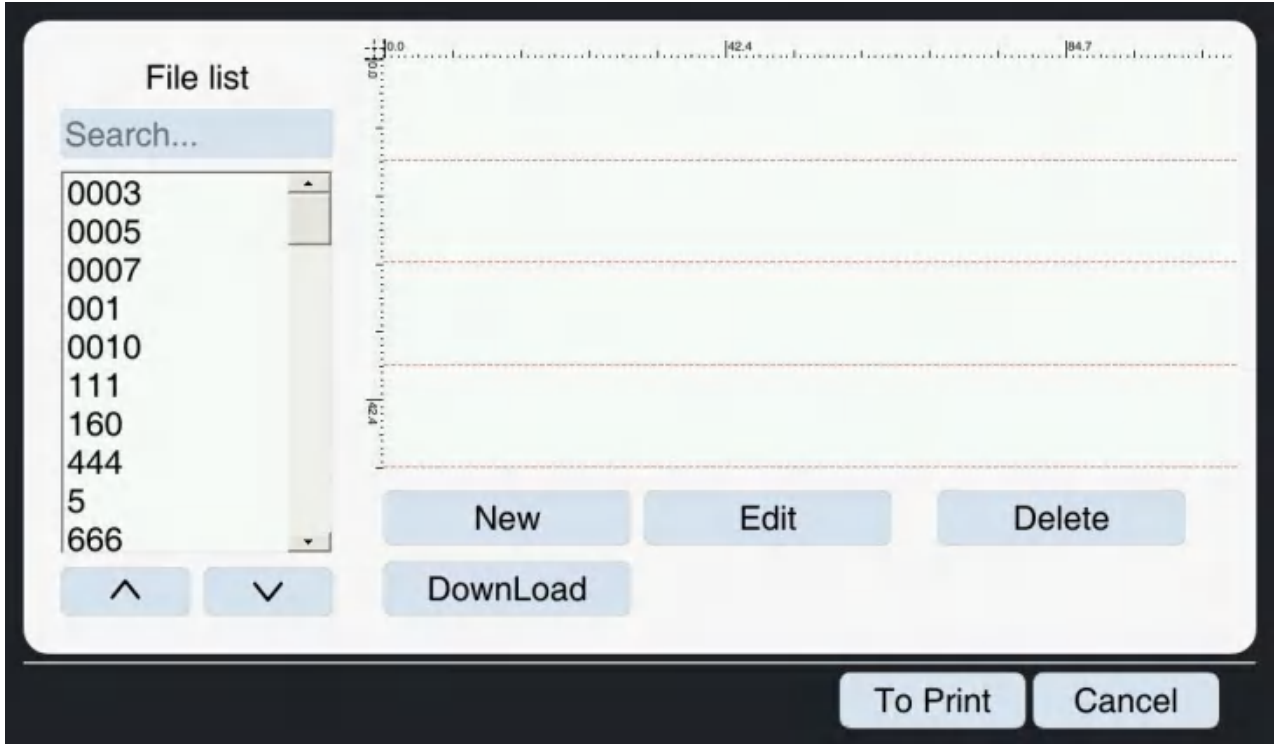

Figure 5-3 File Loading Interface
1、Clicking the  button on the main interface, the system will enter the file loading interface. As shown in Figures 5-3.